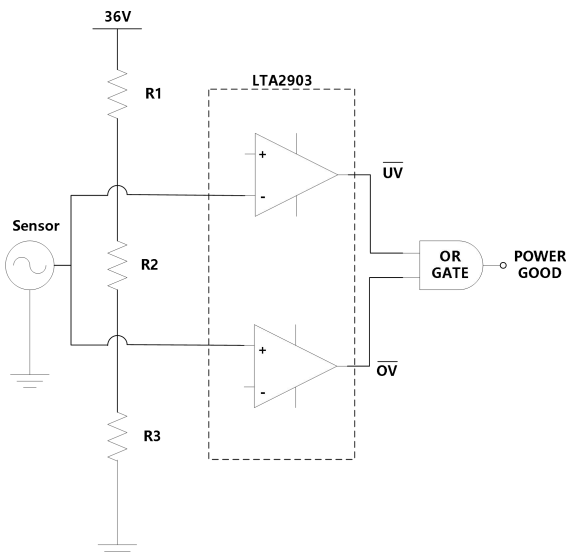

Figure 7: Window Comparator
Window Comparators are commonly used to detect undervoltage (UV) and overvoltage (OV) conditions. Figure 7 shows a simple window comparator circuit.
Configure the circuit as shown in Figure 7. Connect V_{S+} to a 36 V power supply and V_{S-} to ground. Make R1, R2 and R3 each 10M Ω resistors. These three resistors are used to create the positive and negative thresholds for the window comparator (V_{TH+} and V_{TH-}). With each resistor being equal, V_{TH+} is 24 V and V_{TH-} is 12 V. Large resistor values such as 10M Ω are used to minimize power consumption. The sensor output voltage is applied to the inverting and non-inverting inputs of the 2-channel LTA2903's. The respective comparator outputs will be low when the sensor is less than 12V or greater than 24 V. V_{OUT} will be high when the sensor is in the range of 12 V to 24 V. See the application curve in Figure 8.